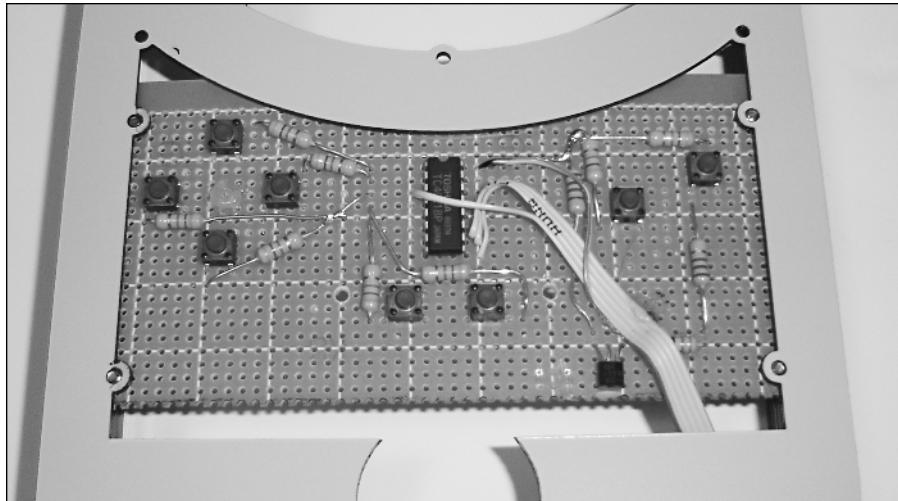

FIGURE 8-30: The control board attached to the front plate.
2. We'll start by connecting the control board to the front plate of the unit. Insert the four 1/4"-long size-4 screws through the side holes of the PC board from the rear, and attach it as shown in Figure 8-30. Run the screws a little above the front plate, just high enough so that your finger can feel them.